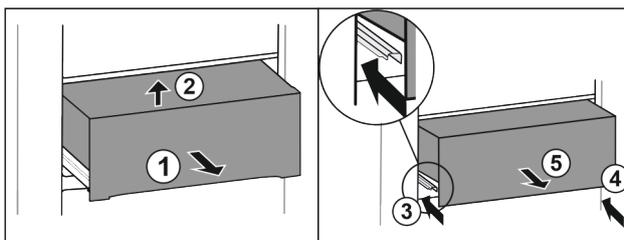

Fig. 32
- ▶ Pull out the drawer half-way Fig. 32 (1).
- ▶ Lift at the front Fig. 32 (2).
- ▶ Insert left rail Fig. 32 (3).
- ▶ Insert right rail Fig. 32 (4).
- ▶ Take out the drawer to the front Fig. 32 (5).